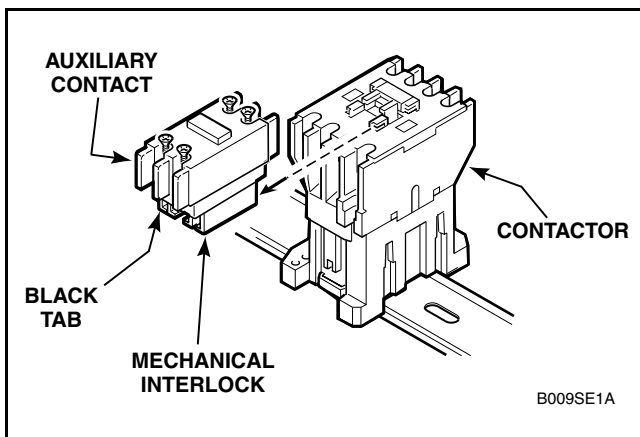

Figure 10
- Lift black tab on bottom of interlock with screwdriver and slide interlock off of contactor, refer to *Figure 10*.